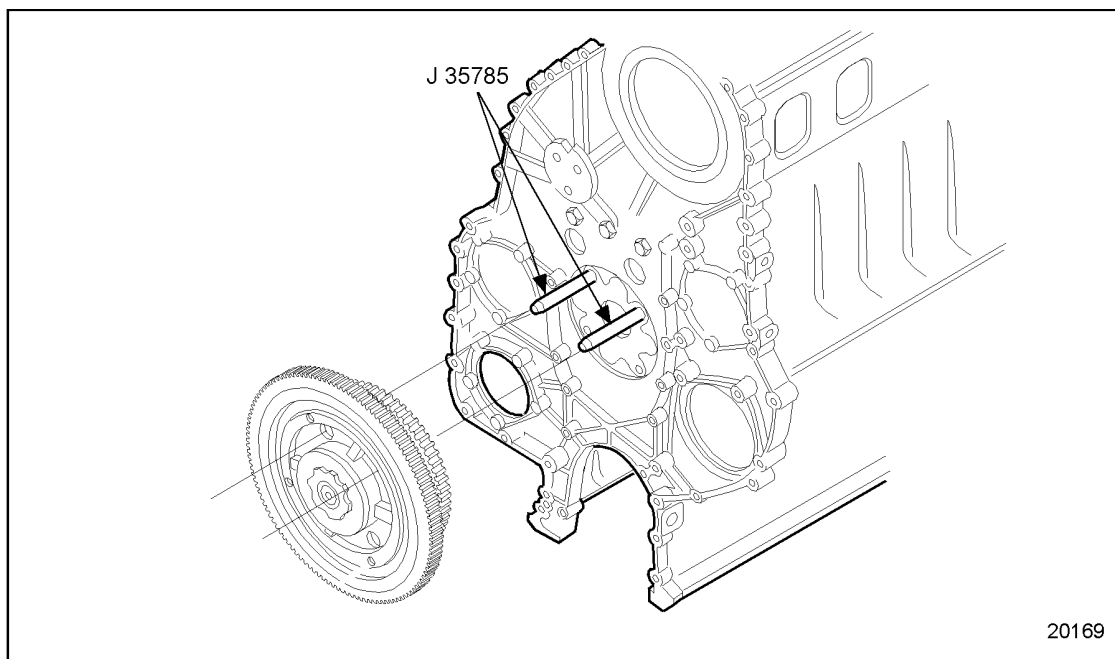

Figure 1-350 Bull Gear Stud Installation
2. Install two bull gear guide studs, J 35785, to the cylinder block. See Figure 1-350.